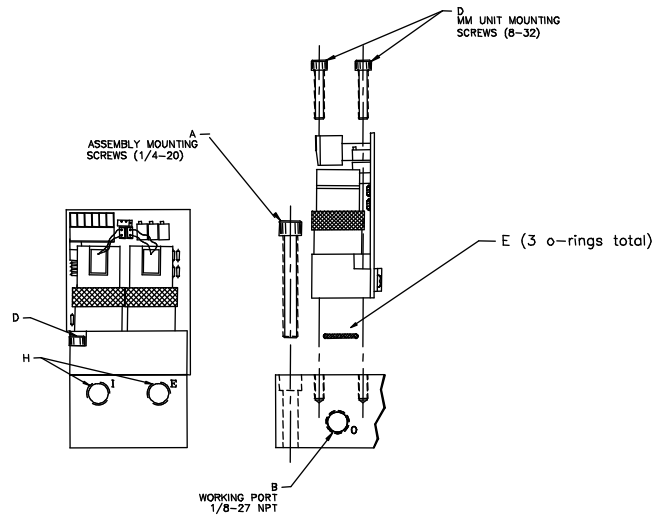

Figure 5
1. Install the three O-rings in the O-ring grooves of the sub-base manifold. (figure 5, ref E)
2. Align the MM servo control valve over the three O-rings. Orientation of the MM unit should be the same for all MMs on the manifold and can be determined by the “I” and “E” marks on the MM brass manifold and the aluminum sub-base manifold (figure 5, ref item H). **Be sure to look at the stamping because the inlet “I” and the exhaust “E” ports are reversed in high pressure units.**
3. Insert the two cap screws that hold the servo valve to the sub-base manifold. Torque each screw to 8 in-lbs and then torque each cap screw to 13-15 in-lbs (figure 5, ref item D).
4. To install the sub-base manifold to a panel use 1/4-20 socket head mounting screws (figure 5, ref item A).
2. Remove the cap screws that mount the MM servo valve to the sub-base manifold (figure 5, ref item D).
3. The MM servo valve may now be lifted free of the sub-base manifold. Be careful to retain the three O-rings in their grooves on the sub-base manifold (figure 5, ref item E).
1. Connect supply pressure to the “I” port (figure 5, ref item H) not to exceed rated supply pressure. (See table 1) **Be sure to look at the stamping because the inlet “I” and the exhaust “E” ports are reversed in high pressure units.**
2. Connect the “O” port (figure 5, ref item B) to the device being controlled.